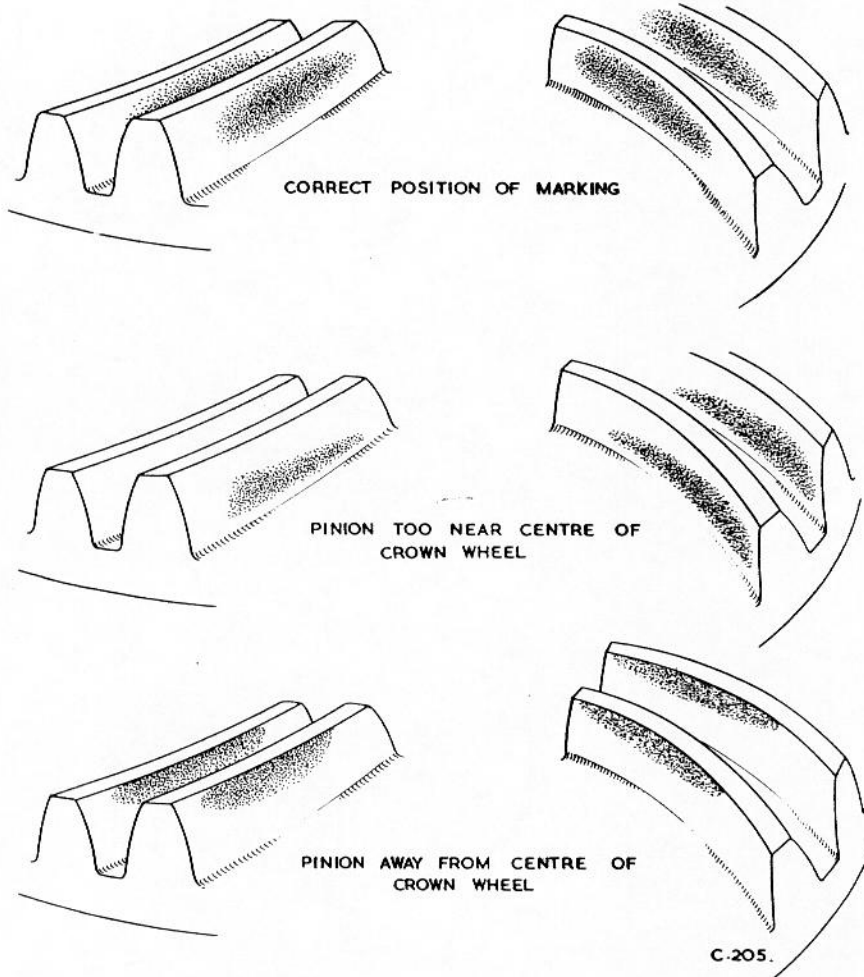

Fig.16 Diagram of tooth contact.
10. Check the tooth contacts by lightly smearing the pinion teeth with marking compound and rotating the crown wheel and pinion together, noting the contact of the teeth as shown in Fig.16. Correct as necessary to obtain the recommended contact by altering the thickness of the adjustable washer fitted to the bearing housing joint then re-adjust the backlash.